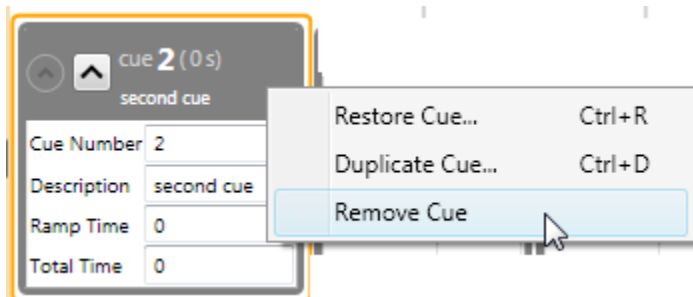

Figure 233
1. Right-click on the cue you wish to delete in the **Cue Grid** and select **Remove Cue** (Figure 233).